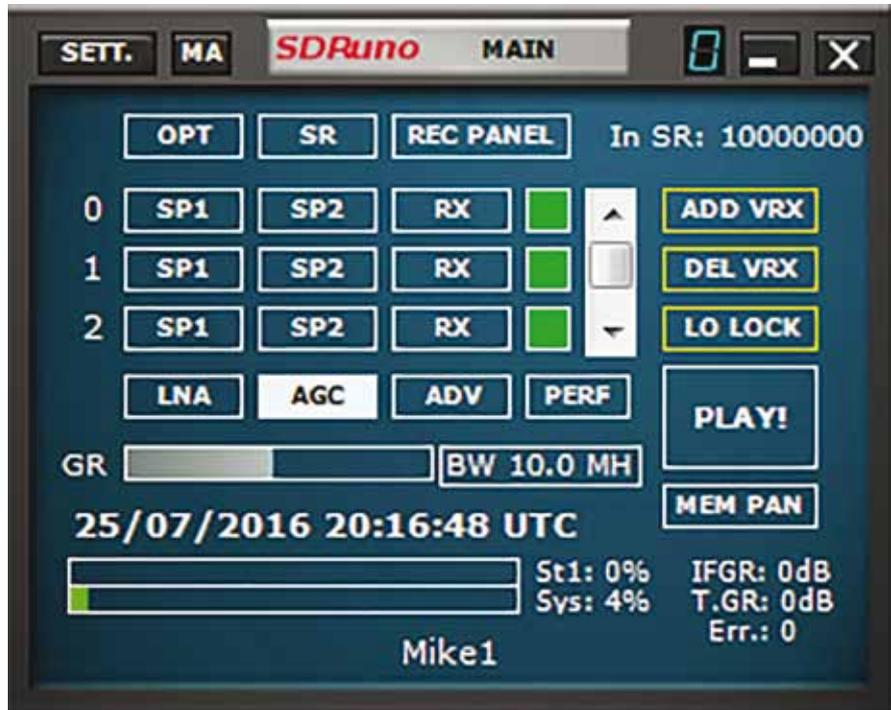
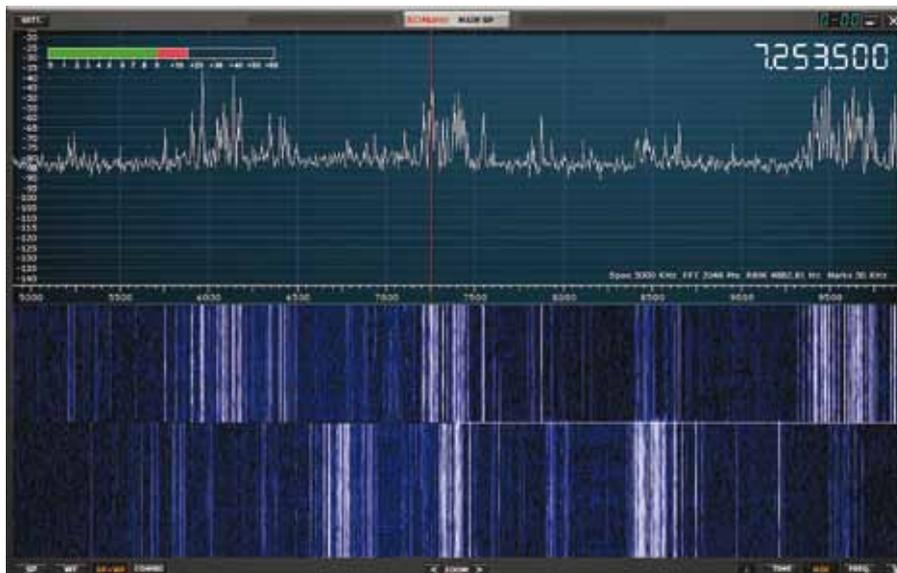

Fig. 1: SDRuno's small MAIN control panel.
Fig. 5: The SDRuno MAIN SP display showing the incoming IQ spectrum.
On launch, new users might be surprised by SDRuno's minimal display, with just the small MAIN control panel active (Fig. 1). Despite its small size, this panel is the central control for each SDRuno instance and allows you to change a variety of options and add extra virtual receivers. One aspect of SDRuno that is different from other SDR systems is its use of undocked windows in the user interface. This might seem a bit unusual at first but it does give you the flexibility to create your own screen layouts; more on this later.
to create and manage multiple virtual receivers. When you start SDRuno, you will see the MAIN control panel that is the start point for using SDRuno (Fig. 1). In order to begin using the receiver, you need to press the PLAY! button. Although not visible in the default settings, the MAIN control panel also starts virtual receiver 00 and this can be seen by clicking the RX button, which will reveal the RX CONTROL window that contains lots of familiar controls (Fig. 4). Also associated with receiver 00 is a spectrum display that's accessed by pressing SP1 (Fig. 5). This displays the full spectrum that's being sent from the RSP hardware. This can be up to 10MHz wide and is dependent on the sample rate (SR) setting in the MAIN control panel.